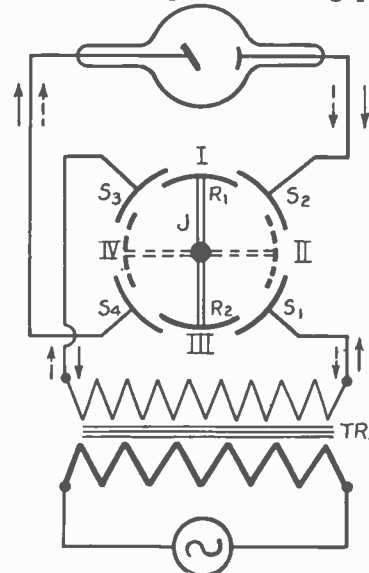

Fig. 7. The gas circuit breaker, this is an instrument of good power, even under heavy loads.
For breaking the circuit for a large induction coil, the rotary mercury circuit breaker or the electrolytic circuit breaker are employed. As an example of the many types of modern circuit breakers, the much employed gas circuit breaker of the last construction is here shown in Fig. 7. On the base of a cast iron vessel there is a layer of quicksilver, which by a small rapidly rotating turbine (S) is drawn up so that it impinges in periodic drops against a metal ring provided with slots. The mercury stream which strikes the ring gives a contact, but if it meets a slot the circuit is broken. In order to prevent
The basic idea of the high potential rectifier is shown in Fig. 7. The alternating current at low potential, 100 to 220 volts, which can be taken right off the street circuit, is by a transformer (Tr) brought up to a potential of 15,000 to 120,000 volts. The secondary coil is connected to the two cylindrical segments (S_1 and S_2) of the commutator, while the segments (S_3 and S_4) are connected with the Roentgen tube. In the circle defined by these four stationary segments an arm (J) of insulating material rotates in synchronism with the period of the alternating current. The arm is provided with two metallic segments (R_1 and R_2) at its ends, which as they rotate pass very close to the stationary segments, and by the spark springing across constantly maintain the connection so that the current impact of the Roentgen tube always has the same direction. This saves the tube a great deal and gives very sharp and contrasting images.